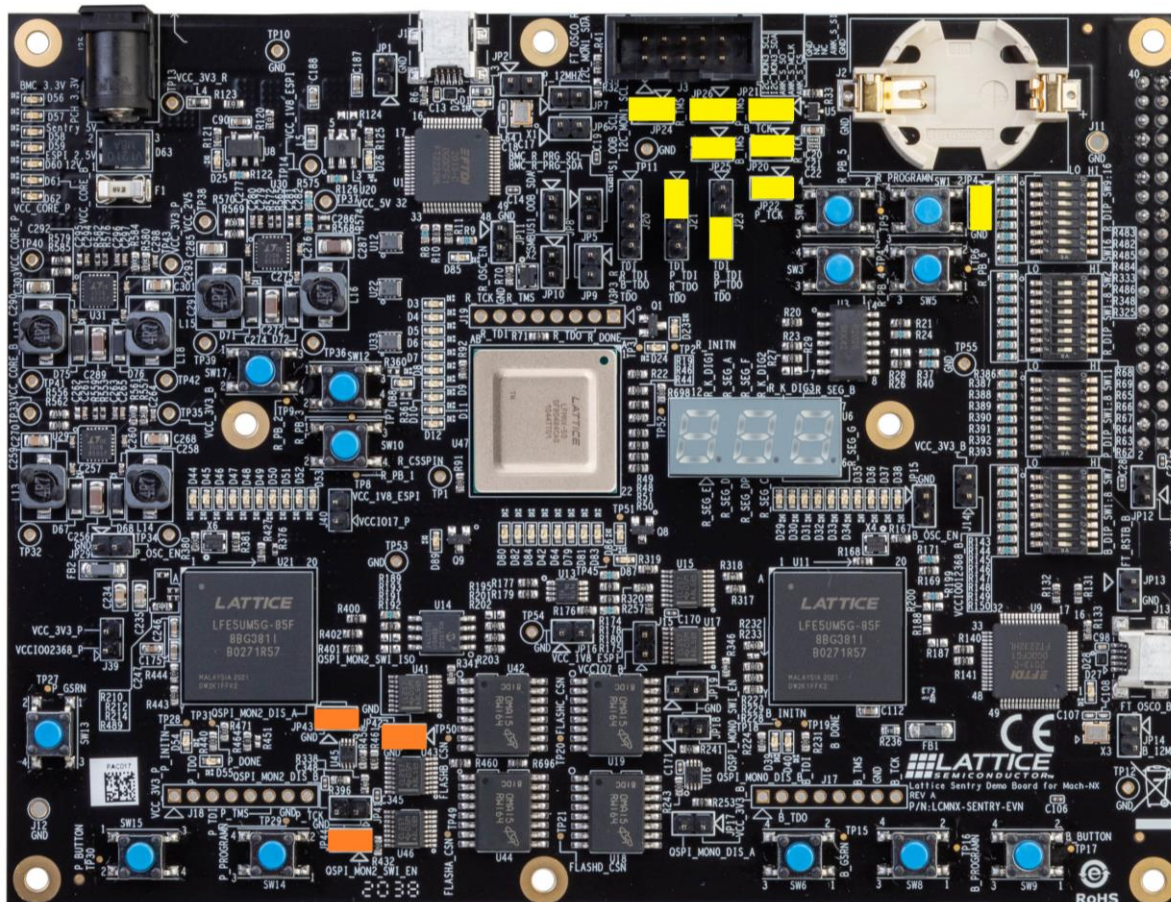

Figure 4.15. PCH Jumper Settings
1. Connect PCH to the JTAG chain. Refer to Figure 4.15 or Table 4.2.